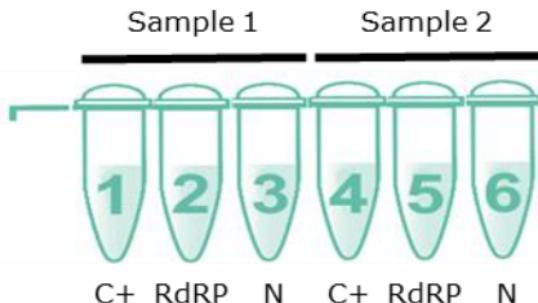

Figure 1: A strip of 6 microtubes allowing the amplification of 3 sequences of alien (C+ : positive control), RdRP and N genes for 2 samples
- For the 2 samples in parallel: RT-LAMP amplification with the reaction buffer and the primers distributed in the microtubes (assay tubes), see Figure 1.
- Alien gene : a non-natural sequence used as internal control for the amplification process - positions 1 and 4 on the strip of microtubes (see Figure 1).
- RdRP Gene : target specific to betacoronavirus (β CoV) human pathogens belonging to B and C groups (SARS-CoV-2, SARS-CoV and MERS-CoV) - positions 2 and 5 on the strip of microtubes (see Figure 1)
- N Gene : target specific to SARS-CoV-2 - positions 3 and 6 on the strip of microtubes (see Figure 1).
- c) Use the orange pipette fitted with a filter-tip to aspirate a 25 µL volume from the orange tube and dispense this volume in each microtube corresponding to the tested sample (see Figure 1), which means :
For each of the two samples (see Figure 1 for the position), the analysis of the results shall be performed pursuant to the following table :